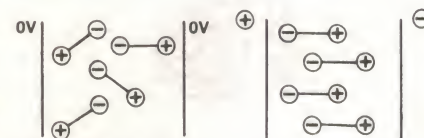

Figure 8.
2. The molecule must possess a dipole. This is an uneven distribution of charge on the molecule, which causes it to align in an electric field (see Figure 8).